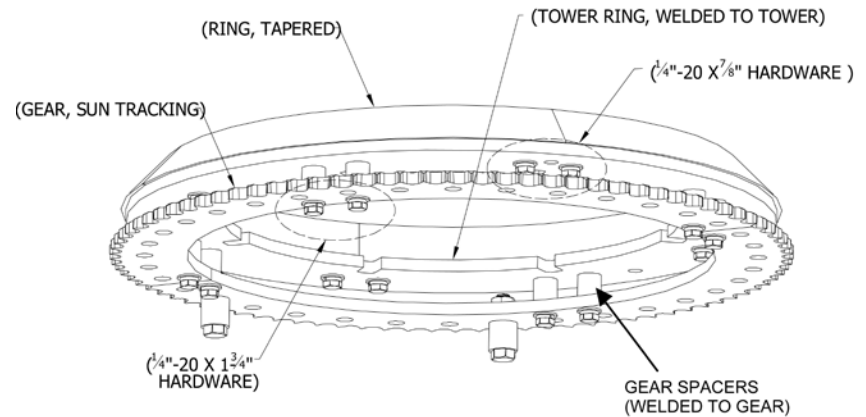

Figure 3
3. Install the remaining four tapered rings to the top-side of the lower tower ring. Use 1/4"-20 X 7/8"L bolts, lock washers, and flat washers on the two ends of each Tapered Ring as shown in Figure 3. The middle two hole locations should be left vacant for now.
4. Install the two sun tracking gears to the bottom-side of the lower ring. Ensure the spacers on the gears are facing up. Use four 1/4"-20 X 1-3/4"L bolts, lock washers, and flat washers for each gear. See Figure 3.